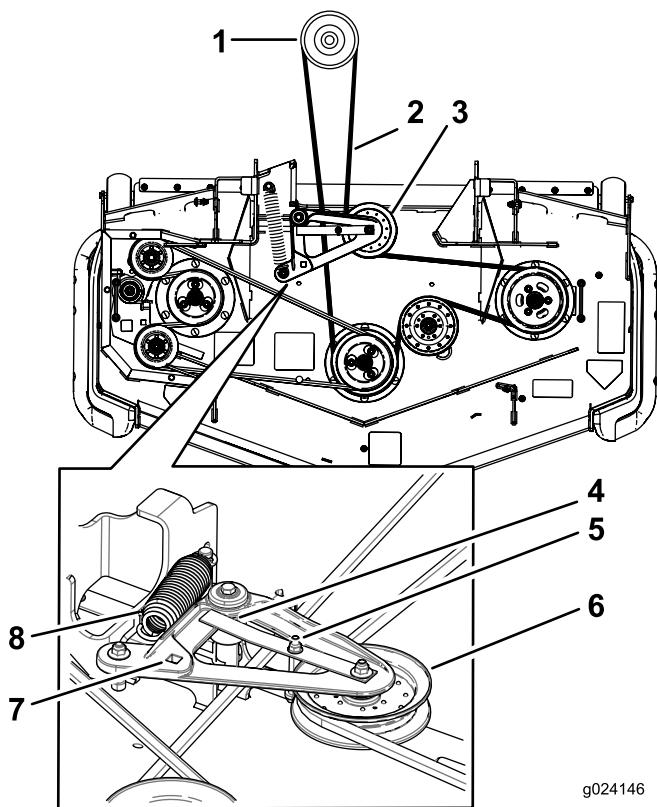

Figure 71
10. Using the ratchet in the square hole, install the new belt around the mower pulleys and the idler pulleys (Figure 71).
6. Use a ratchet in the square hole in the idler arm to remove tension on the idler spring (Figure 71).
8. Lift up on the belt-guide tab and remove the existing belt (Figure 71).
9. Install the new belt around the mower pulleys and the clutch pulley under the engine (Figure 71).
10. Rotate and ensure the belt-guide tab hits against the pivot hub Figure 71.
11. Using the ratchet in the square hole, install the idler spring (Figure 71).